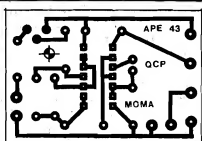

Fig.5
- FIG. 5 - LAY OUT DO IMPRESSO DO MÓDULO MÃE (MOMA)